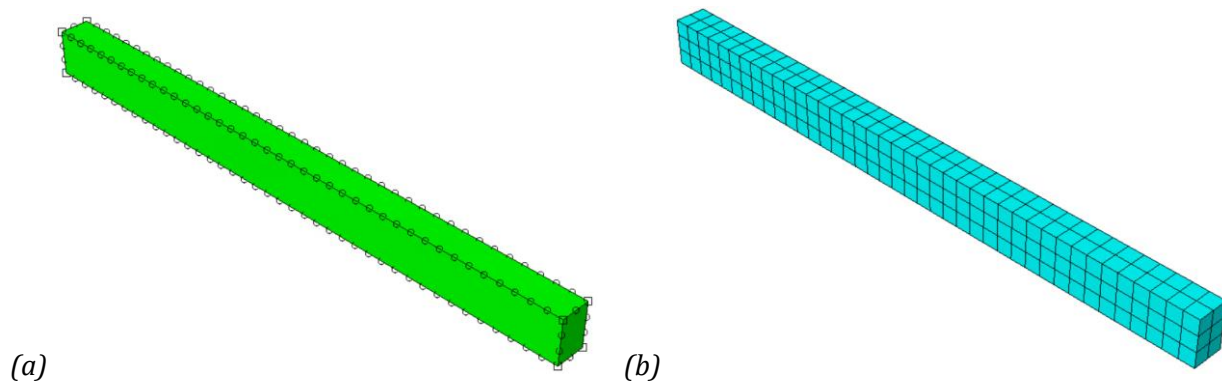

Figure 1-27 – (a) The Seeded part instance and (b) part instance showing the resulting mesh.
3. In the **Global Seeds** dialog box, enter an approximate global size of **50** (mm) and click **OK**. Abaqus/CAE applies the seeds to the part, as shown in Figure 1-27(a).
5. Click **Yes** in the prompt area to confirm that you want to mesh the part instance. Abaqus/CAE meshes the part instance and displays the resulting mesh, as shown in Figure 1-27(b).